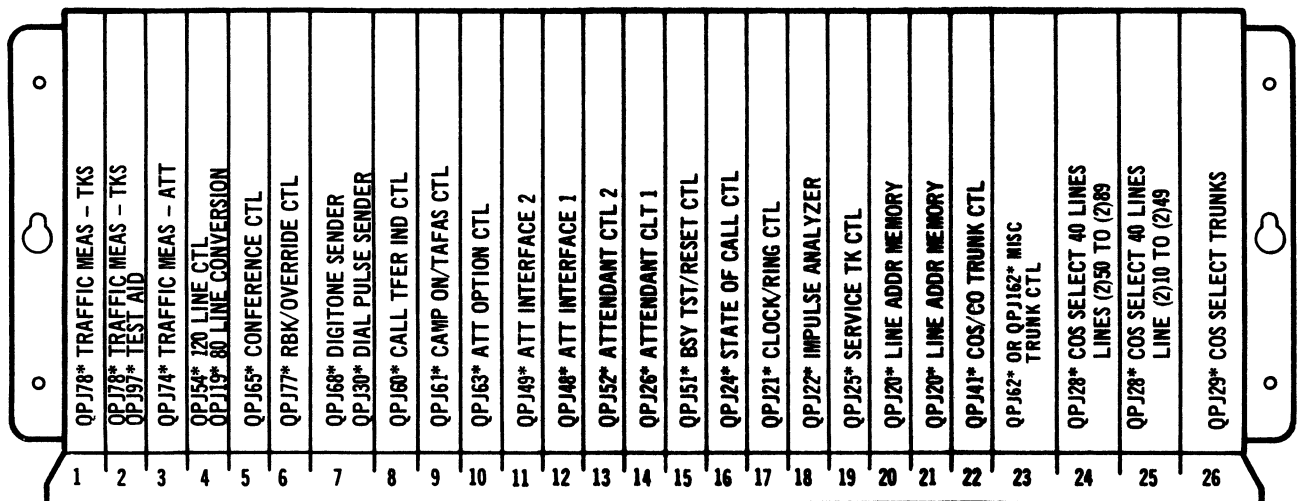

Fig. 4 – Layout of Control Shelf
3.06 This shelf accommodates up to 26 circuit packs, as shown in Fig. 4. The functions of the circuit packs are as follows:
- **QPJ28* COS SELECT 40 LINE:** Produces signals indicating the COS assigned to each station line when the address (number) of the station line is recognized. The COS for each station line is determined by the position of a number of diode pins in a COS block on the circuit pack. The two of a number of diode pins in a COS block on the circuit pack. The two circuit packs shown in Fig. 4 serve line shelves no. 1 and no. 2.